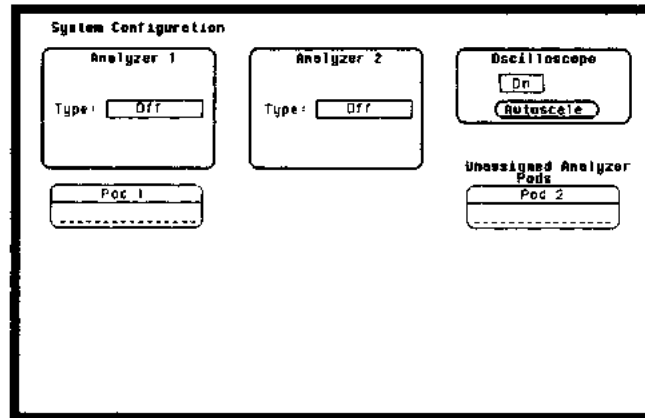

Figure 3-42. System Configuration for Input Resistance
4. In the **System Configuration** menu, turn both State/Timing Analyzers off and turn the oscilloscope on as in figure 3-42. Refer to steps a through d if you are unfamiliar with menus.
3. In the **System Configuration** menu, turn both State/Timing Analyzers off and turn the oscilloscope on as shown in the previous test figure 3-42.